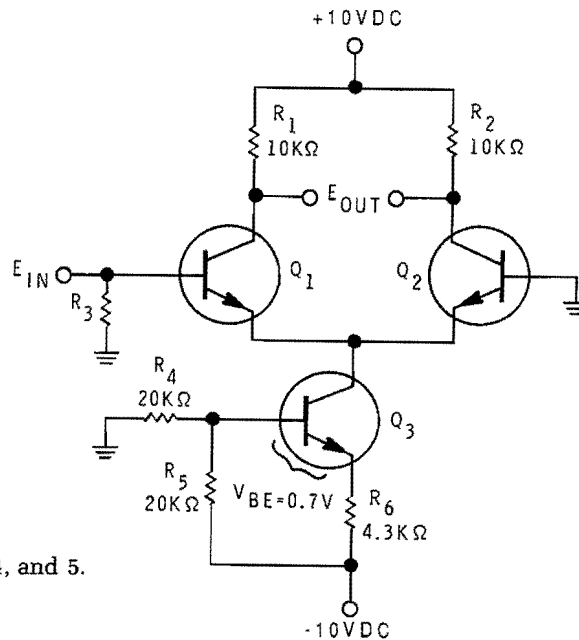

Figure 3-84
3. Refer to Figure 3-84. When  $E_{IN}$  is at 0 volts, the current through  $Q_1$  is about:
4. Refer to Figure 3-84. When  $E_{IN}$  swings positive:
5. Refer to Figure 3-84. The load can be connected between: